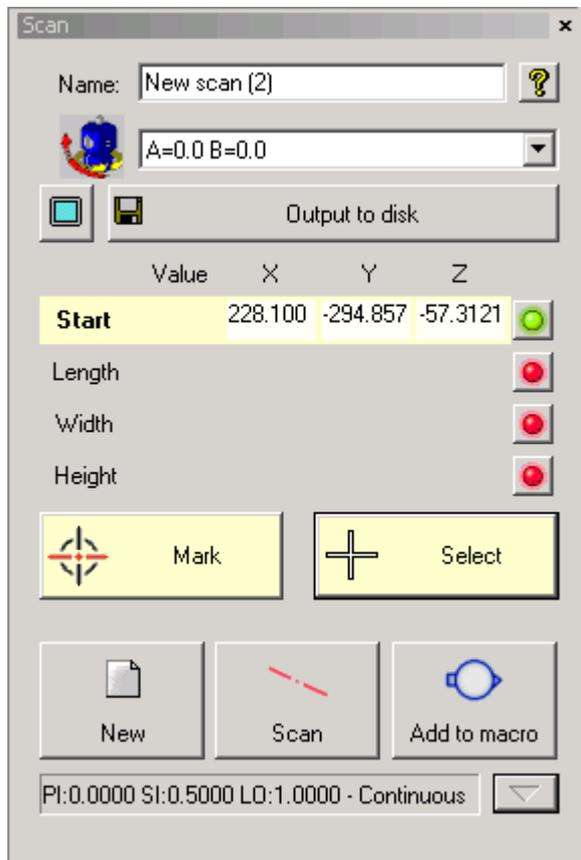

Figure 11: The Scan window in Metris Scan.
- If unseen, bring up the Scan window by clicking the  icon towards the top right of the Metris Scan screen. The Scan window is shown in Figure 11.
- Scans can be single line scans, or an area or volume scan. The dimensions of the line/area/volume are defined in the rows labelled Length, Width and Height in the Scan window (see Figure 11). The choice of line, area or volume scan is made by selecting or de-selecting these rows, by toggling the lights on the right between red and green.